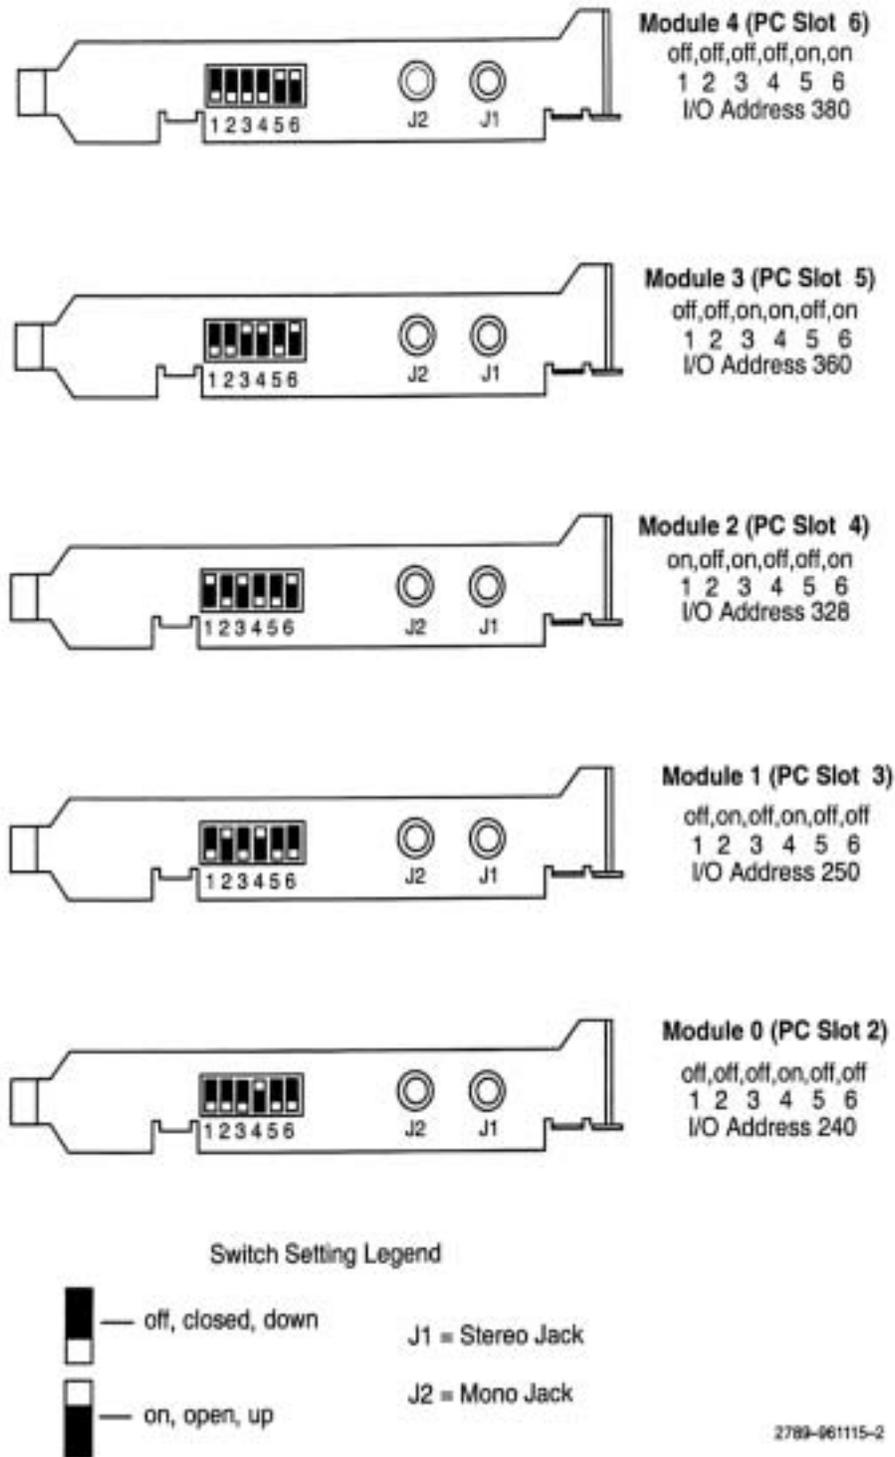

Figure A-11. DECtalk Card Switch 2 Settings for I/O Addresses
- Figure A-11.** DECtalk Card Switch 2 Settings for I/O Addresses